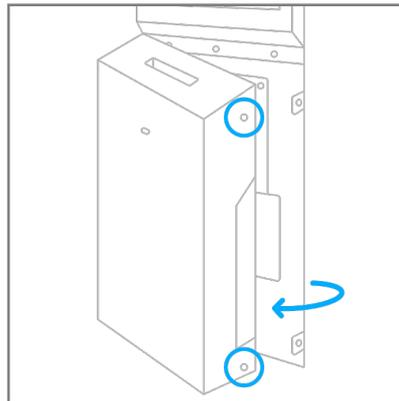

Figure 14.
Step 4: Loosen the two recessed screws on the right side of the Swift UV main housing with the provided Phillips screwdriver and rotate the main housing open (Figure 14.).